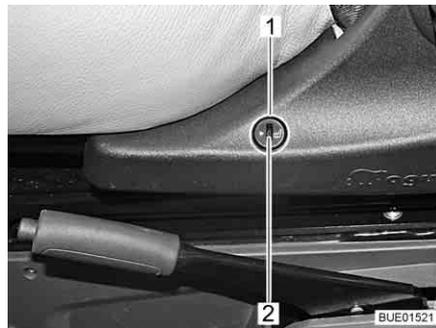

Fig. 30 Seat heater switch
- Press the lower half of the switch (Fig. 30,1) on the left side of the seat console.
- To lower the heat output, turn the adjustment wheel (Fig. 30,2) towards "0".
- To increase the heat output, turn the adjustment wheel (Fig. 30,2) towards "5".
- Press the upper half of the switch (Fig. 30,1) on the left side of the seat console.